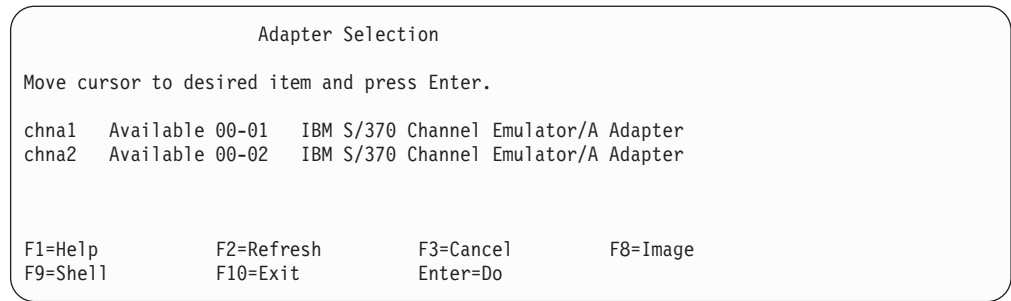

Figure 1. SMIT Adapter Selection panel
3. Select Load Driver onto S/370 Channel Emulator/A Adapter. The Adapter Selection panel (Figure 1 on page 9) displays.